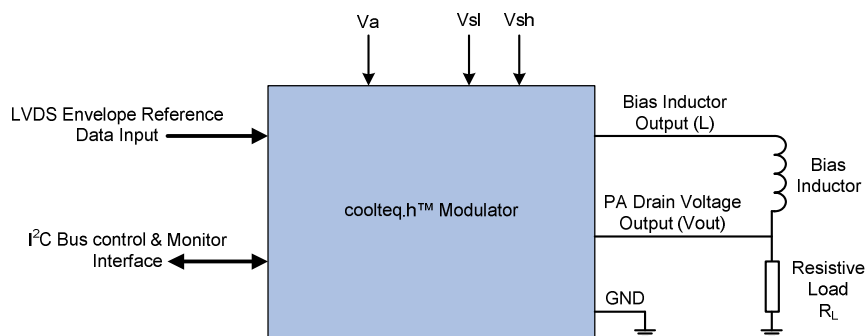

Figure 3: NCT-H4010 Test Configuration
The electrical characteristics were recorded using the test configuration shown in Figure 3. Bias Inductor Output (L) connector is coupled to PA Drain Voltage Output (Vout) via a Coilcraft SER2013-472 4.7 μH Bias Inductor. Resistive Load (RL) is Nujira part number NCT-T5002 6.5 Ohm high power load.